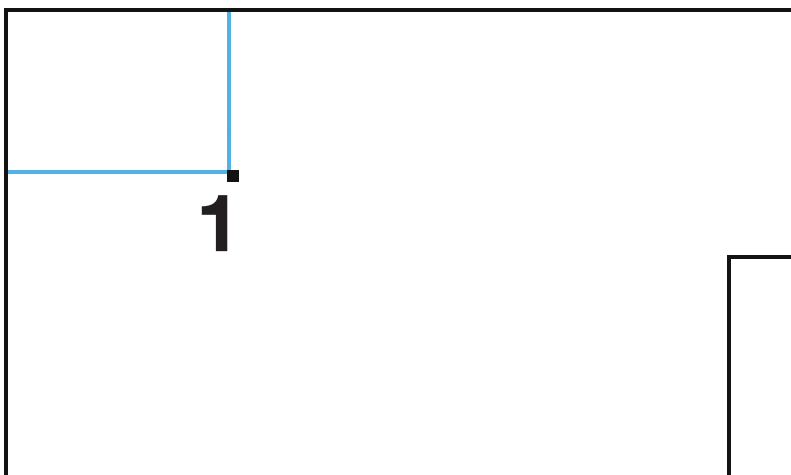

Fig. 4-6
- A.** Rectangular coordinates – an object (item 1, see Figure 4-6) is located by making a measurement at right angles from each of two walls. Works well for indoor measurements.